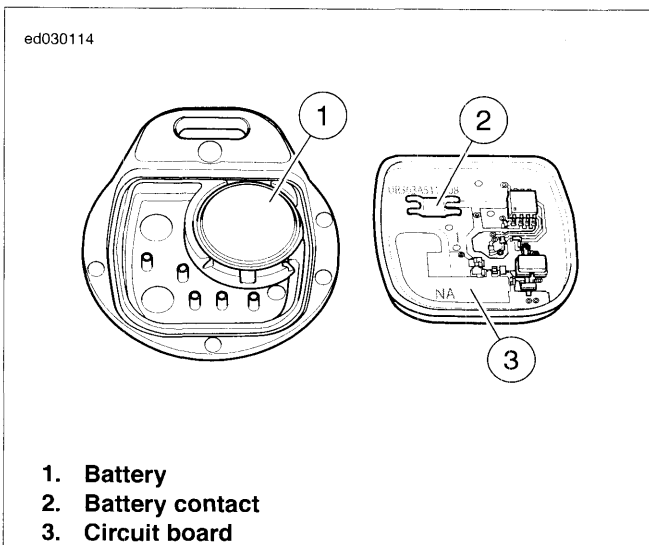

Figure 6-145. Open Fob: TSSM
- a. **TSSM:** See Figure 6-145. Place a thin blade between the two halves of the case.
- a. **TSSM:** See Figure 6-145. Align case and circuit board (3) as shown.